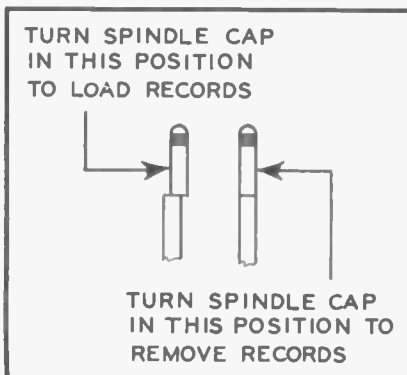

Fig. 8. Details of spindle cap on which records are loaded.
1. To check this alignment, turn the spindle-cap so it is in alignment with the rest of the spindle, which is the correct position for removing records. (See Fig. 8.)